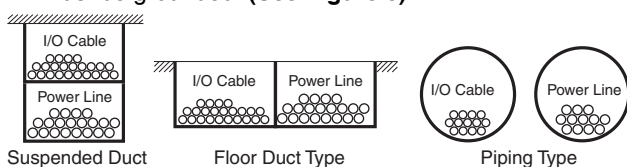

Figure 8. I/O Cable Wiring
- (2) The output signal line should not be near or parallel with high current or power lines. When nearby, they should be separated by a duct, and an alternative wiring pipe should be established. In this event, the duct and wiring pipe must be grounded. (See Figure 8)